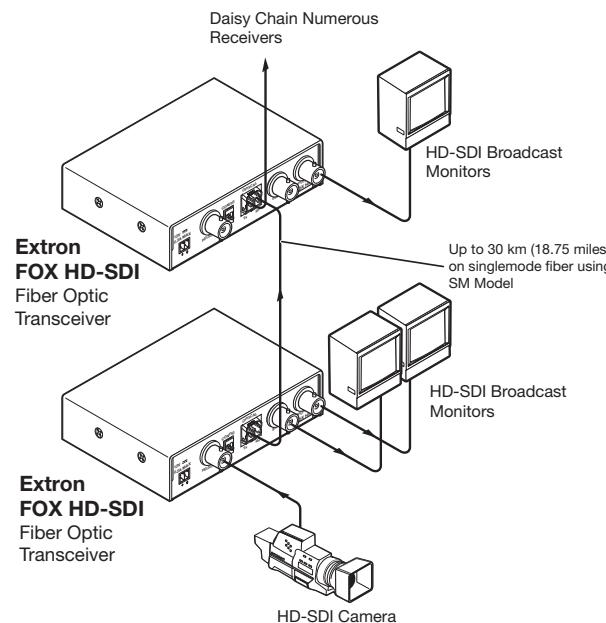

Figure 1-1 — Typical FOX HD-SDI application
- **FOX HD-SDI SM**, a singlemode, very long distance (up to 30 km [18.75 miles]) transceiver (figure 1-1)